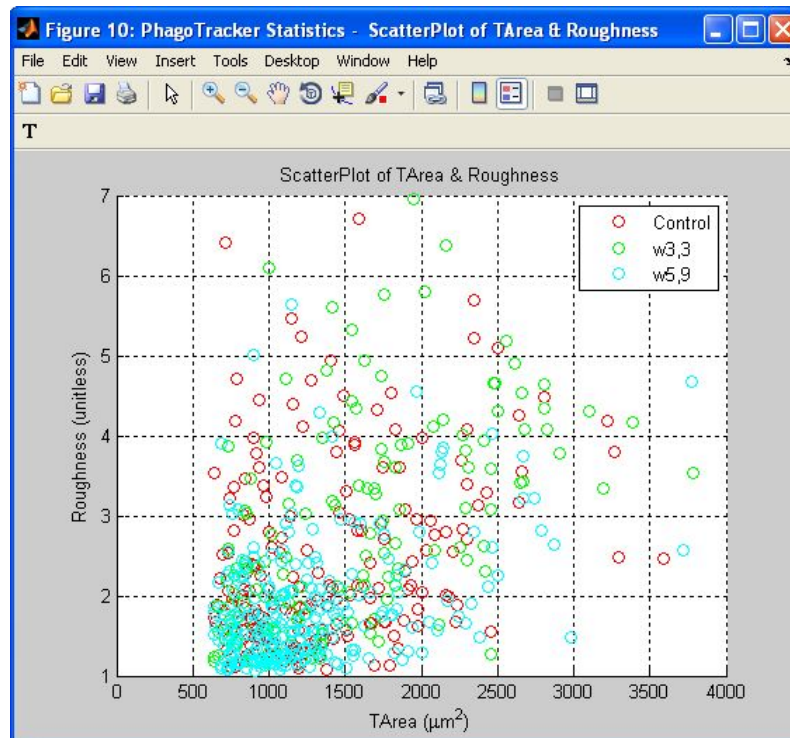

Figure 14: Scatter plot view of Roughness against Total Area
- *Scatter plot* – a scatter plot of the two selected features is shown for each active series. Figure 14 shows an example of a scatter plot of Roughness against Total Area of three of the above series.